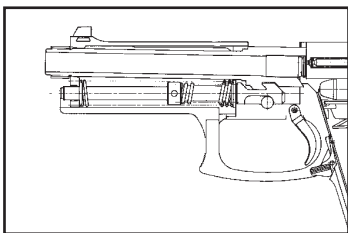

Figure 6
B. **Unlocking** - (see Figure 6) The gas pressure and energy produced by the propellant gases push rearward on the slide, which is locked to the barrel by the engagement of the barrel locking block within the ejection port milled into the slide. The opposing angled locking surfaces incorporated into the design of the barrel locking block and recoil spring guide rod cause the rear of the barrel to tilt downward as the slide moves rearward. By the time the slide and barrel have recoiled approximately 5mm, the projectile has left the barrel and the gas pressure within the chamber has dropped to a safe level. The barrel locking block then disengages from the slide. The slide is now free to recoil rearward independently of the barrel.